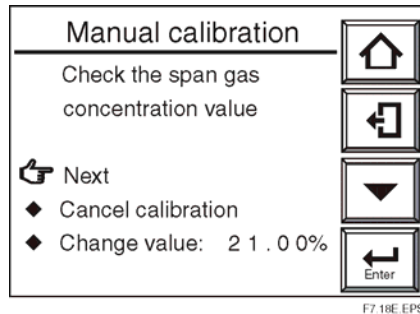

Figure 7-24 Manual Calibration
- Select Manual calibration and press the [Enter] key. The Manual calibration display shown in Figure 7-24 then appears. Verify the concentration value displayed is the correct value for the reference span gas. If it is, select "Next".